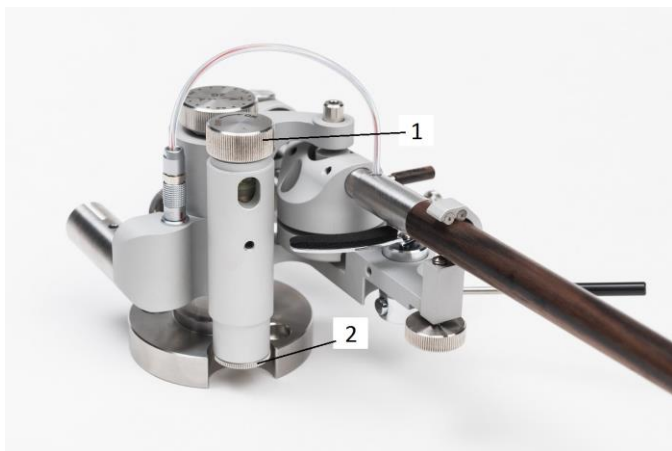

Figure 15
- a) Switch on the laser by turning "OFF-ON" knob [1] clockwise (Figure 15).
- d) Switch of the laser by turning "OFF-ON" knob [1] counterclockwise (Figure 15).
- a) Unscrew battery cover [2] (Figure 15).
- c) Screw up battery cover [2] (Figure 15).